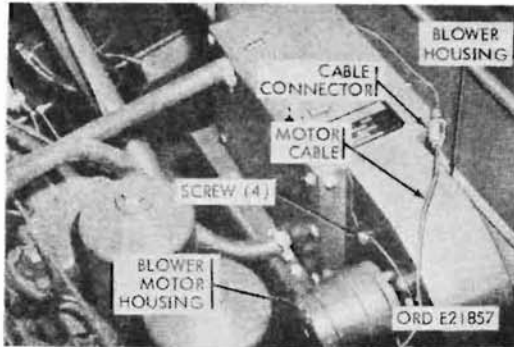

Figure 422. Heater blower motor removal
- (2) Remove nut and washer securing control cable and clamp to vehicle firewall, and remove clamp from the cable (fig. 422). Release tension on